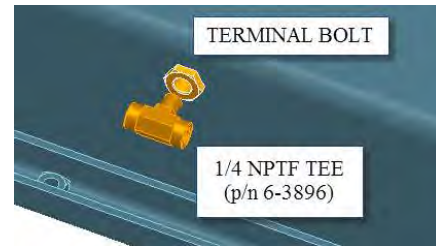

**Figure 50a & 50b**
2. On the inside of the front DS tower, mount the Roller Lever Light Sensor using the #8-32 screws #6-4135, internal lock washers #6-3465 and flat washers #6-3966. Ensure the lever is as shown in the below figure with roller towards tower (**Fig. 50a**).